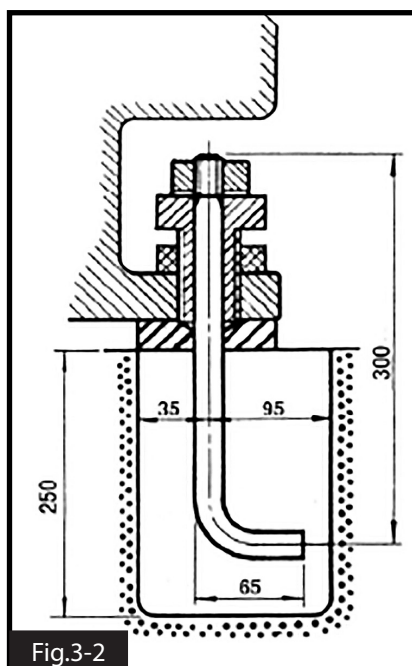

Fig.3-2
The foundation should be concrete approximately 200mm thick with pockets left clear for the hold down bolts. The hold down bolts can be "L" shape as per the example in Fig. 3-2
- Bolt the support arms onto the feed table. Ensure they are level and square to the table. (Fig.3.2)